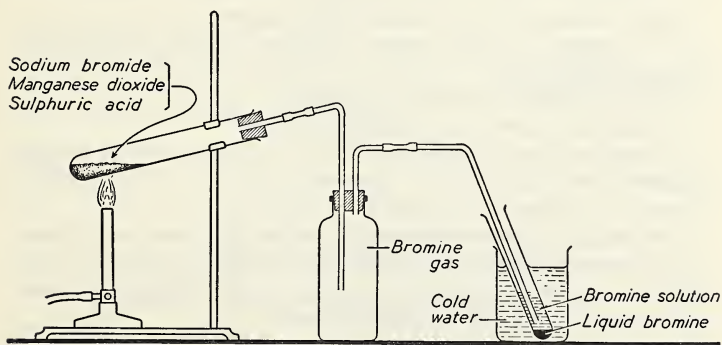

Fig. 73. The laboratory preparation and collection of bromine.
1. Arrange the apparatus as in Figure 73. Mix thoroughly on a piece of paper one teaspoonful of sodium bromide and one teaspoonful of manganese dioxide. Place the mixture in a large test-tube, and add just sufficient water to moisten it. Add just sufficient concentrated sulphuric acid to cover the moist mixture. Quickly insert the stopper containing the delivery tube leading to the gas bottle, and observe the reaction. When the reaction diminishes in activity gently warm the test-tube.
Suggest a reason for collecting the bromine as indicated in Figure 73.